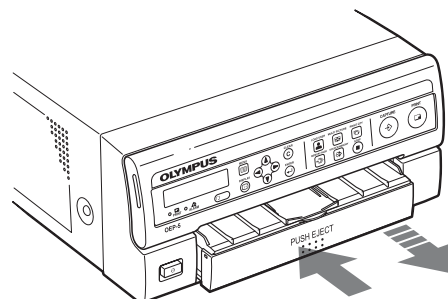

Figure 4.3
- 2 Push the “PUSH EJECT” area on the paper tray and take out the paper tray (see Figure 4.3).